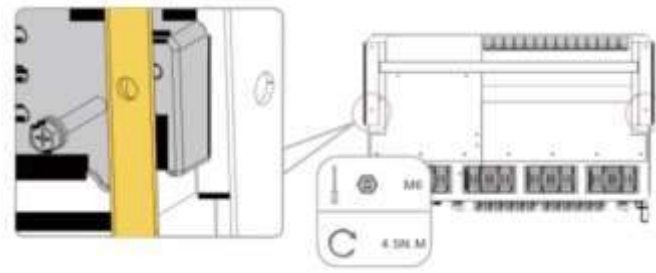

Fig. 4-14 Fix the invertir
7) Fix the inverter with two M6×35 screws (Fig. 4-14).
- 8) Fix the inverter with screws (Fig. 4-14).